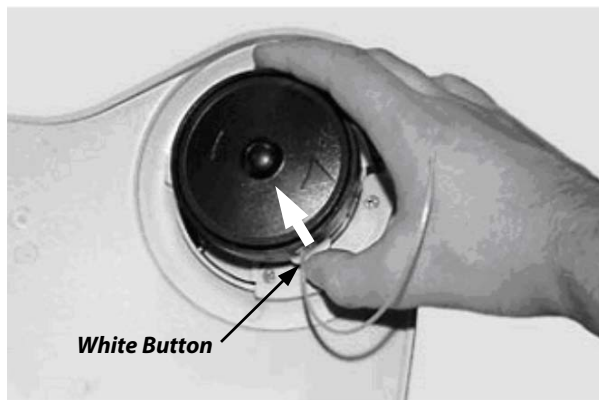

Figure 37
2. Push in the white Button on the side of the Spool Housing (**Figure 37**) and pull the Cord to advance it. The Cord advances in small increments so you might have to push the Button a few times.